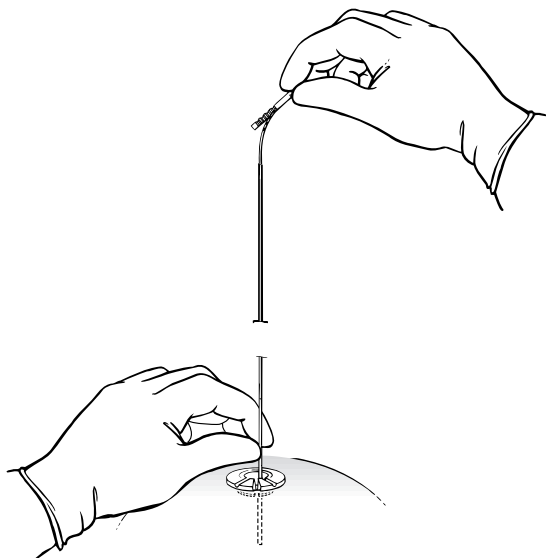

Figure 18. Loosen the stylet handle from the lead.
- d. Carefully loosen the stylet handle from the lead (Figure 18).